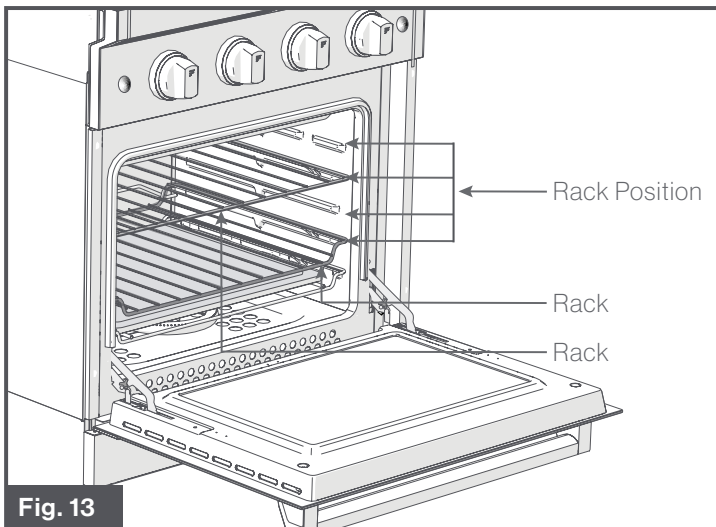

Fig. 13
- To insert the oven rack, position the oven rack just above the rack position desired. The rack should slide towards the back and will drop down once fully pushed in. To lock the rack into position, pull the rack forward slightly and then push the rack in to lock down the front section of the rack. (Fig. 13)